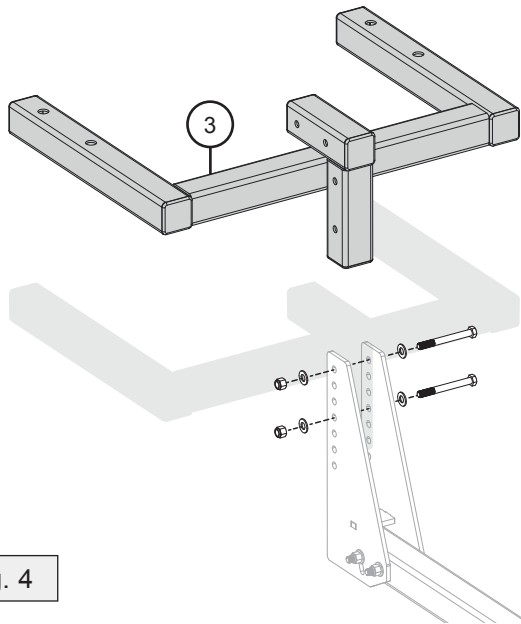

Fig. 4
Align the spreader mount (3) with the adjustment plate (2) as illustrated below. (Fig. 4)